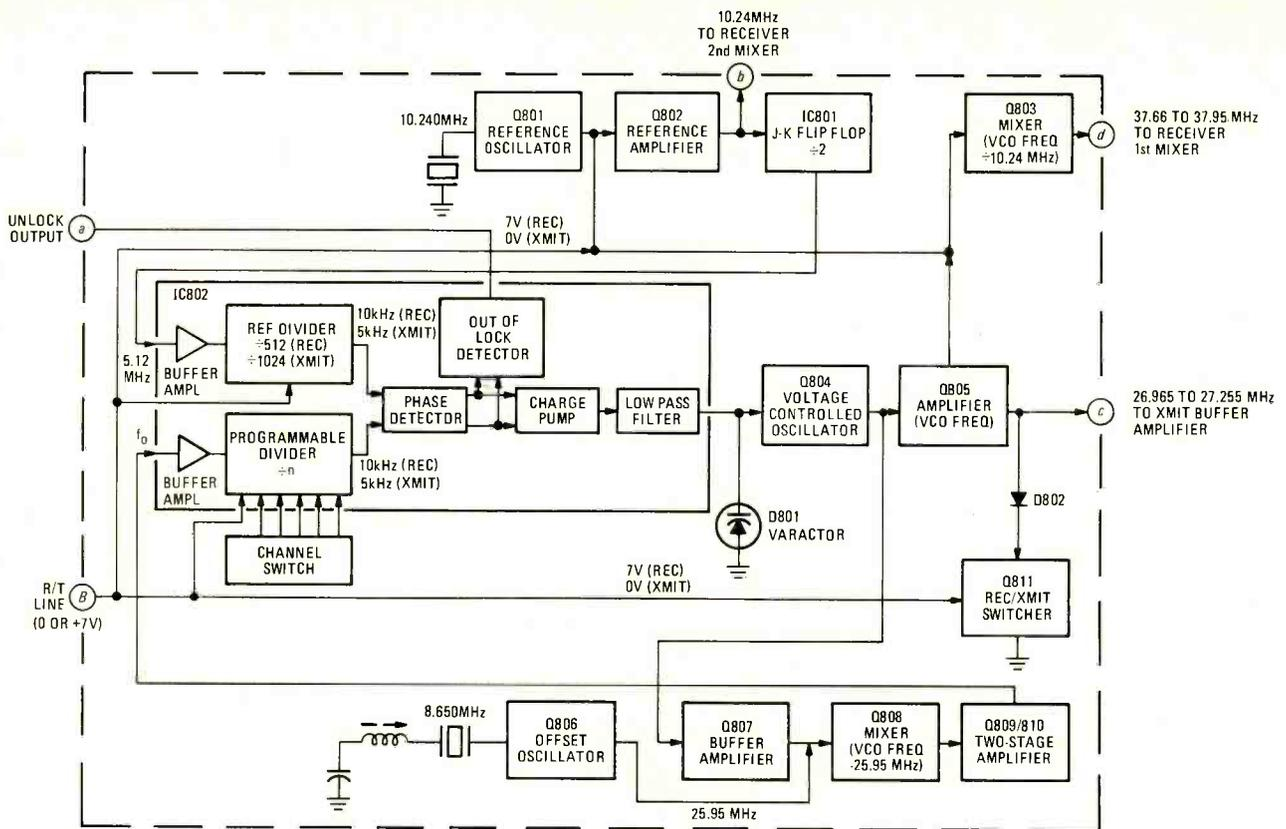

FIG. 1—DIGITAL FREQUENCY SYNTHESIZER in the G-E model 3-5800A uses only two crystals for full control of all transmit and receive frequencies.
The Motorola XC3390 IC contains nearly all the components and circuitry needed for a frequency synthesizer. The only external components required are the 30.72-MHz reference crystal, loop amplifier and filter, and the VCO. The synthesizer develops the RF-channel carrier frequencies used in the transmit mode and the two mixer injection-frequencies for the receiver. Compare this with the digital frequency synthesizer in the G-E model 3-5800A. A block diagram of this synthesizer is shown in Fig. 1.
Most tape decks used for home applications have a dynamic-range capability of no more than 55 to 60 dB. If the 100-dB dynamic range of music is first compressed into 50 dB, that music can be made to "fit" onto the tape and will lie somewhere between the tape-noise "threshold and the tape-saturation level, as shown in Fig. 1. If a linear expander
**FIG. 1—COMPRESSION/EXPANSION process reduces the dynamic range of input signals so that it fits within the limitations of magnetic tape and then restores the original dynamic range during playback.**
Referring back to Fig. 1 and dbx's other innovative product—the 2:1/1:2 Compressor (known as their *120 series*)—suppose we used *both* products in series before making a recording. In